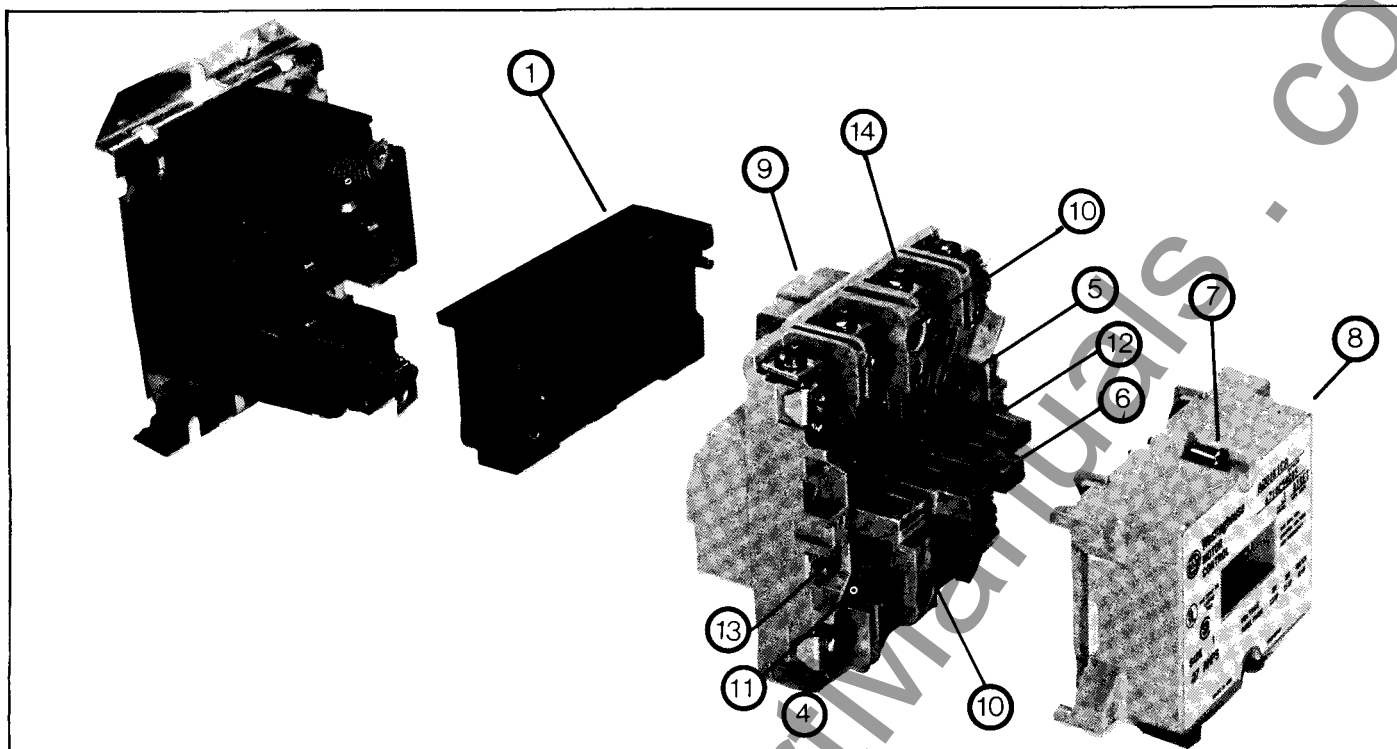

Fig. 7 Size 1 A200 Contactor (Exploded View)
Refer to Figure 7. Loosen the two arc box assembly screws (7) located immediately above and below the nameplate and remove the arc box (8). Contacts (5) are visible. Retighten the screws per Table IV.
Refer to Figure 7. Loosen the assembly screws (10) located to the immediate top and bottom of the arc box. Remove connector straps to the overload relay. Pull the loosened upper base structure (9) forward. Pull the coil (1) from the up-